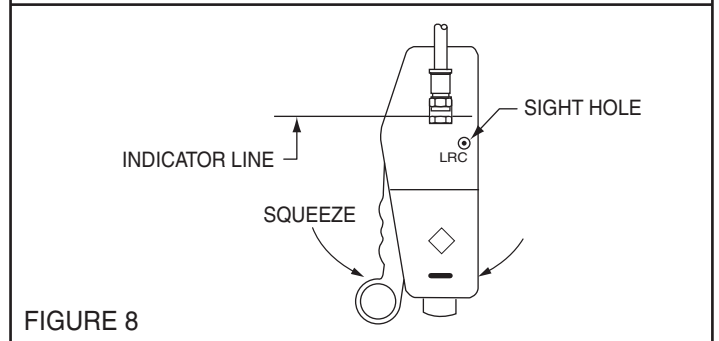

FIGURE 8
**(A) Using IT1000 tool:** place connector assembly inside tool as shown. Squeeze handle until the plastic sleeve snaps into the connector (see Figure 8).
The plastic sleeve is in proper position when the connector is compressed to the indicator line scribed on the tool. A white indicator will also be visible through the tool "sight hole" (see Figure 8).